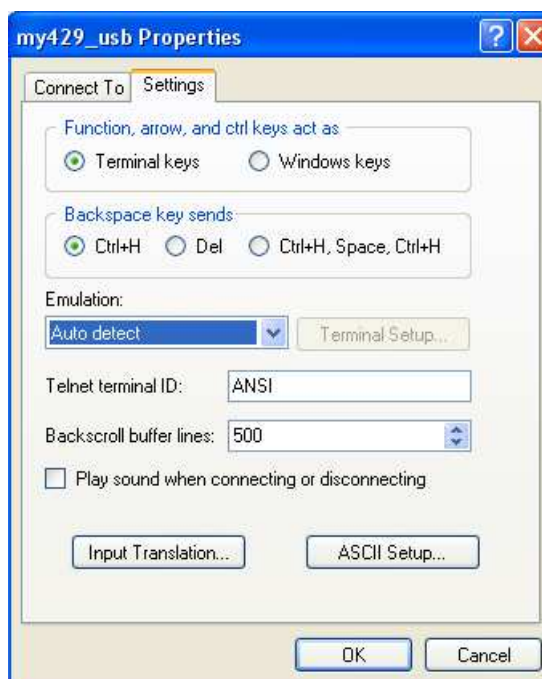

Figure 2-5 • HyperTerminal Properties Settings Window
- From the **File** menu, choose **Properties**, and click the **Settings** tab to open the HyperTerminal Properties Settings window (Figure 2-5).